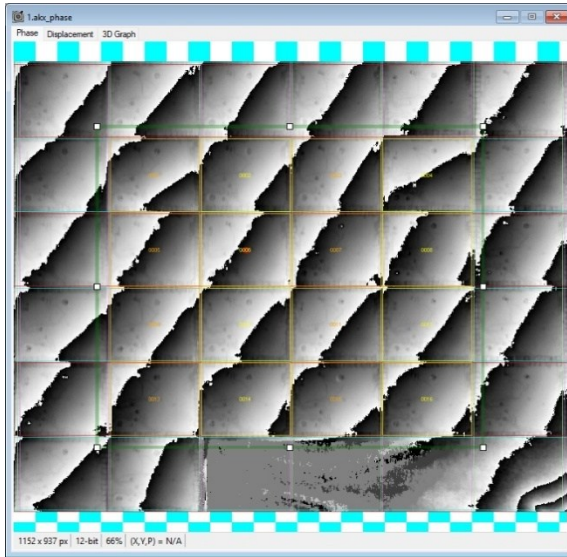
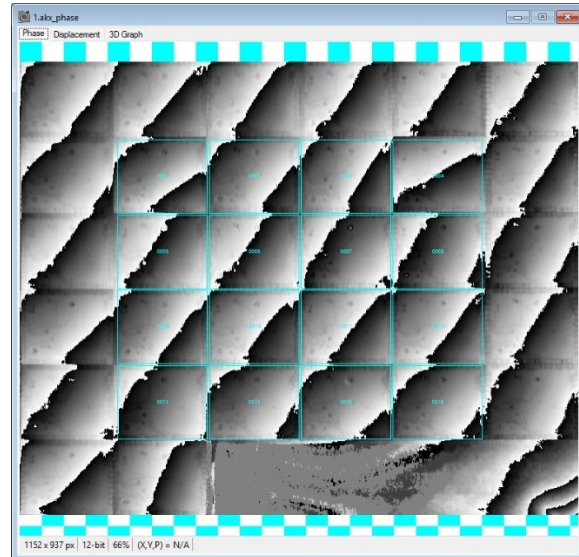

Figure 3.36 Green Array Bounding Box
Figure 3.37 Added Partition Array
- To save the partition regions, use the green array bounding box to select the specific regions to be saved. The bounding box can be edited via the Array Context Menu to square its dimensions or edit its position and size (**Figure 3.35**). Note that only regions whose whole areas are enclosed by the green bounding box will be saved, as seen in **Figure 3.36** and **Figure 3.37**. Click on **Add Regions** to add the selected regions. The program will lock these regions so that they cannot be edited. Interaction with the created array can occur just as with a normal partition (see **Section 3.3.1**).